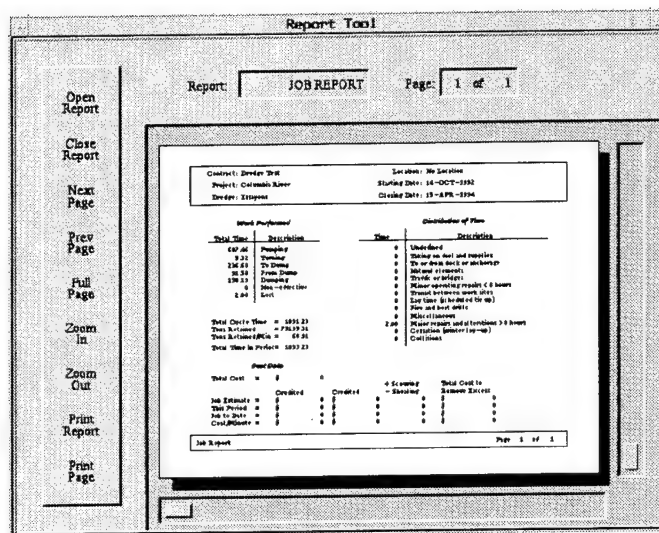

Figure 49. Job Report Display screen
- The display screen for the **Job Report** (Figure 49) is identical in use to the **Trip** and **Daily Report Display** screens.